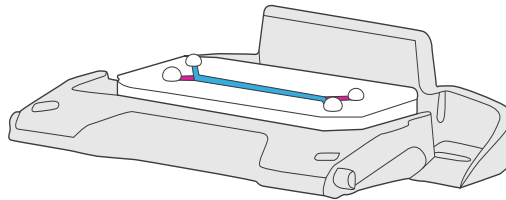

Figure 4: Chip in chip carrier with small droplets of ECM solution at ports
8. To prevent evaporation during incubation, fill central reservoir with 0.75 mL of DPBS (Figure 4) and place lid onto 120-mm square dish and incubate overnight at 37°C and 5% CO2.